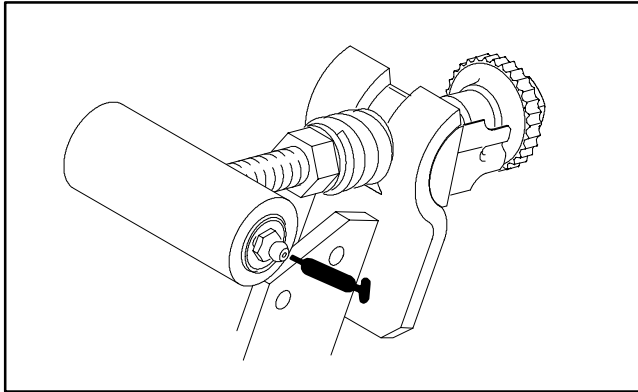
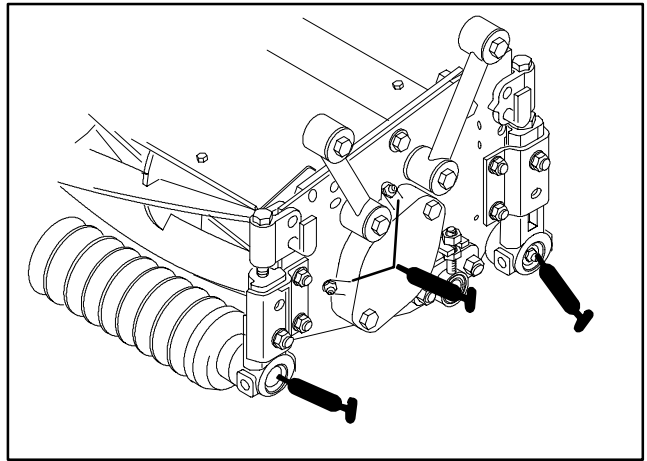

Figure 6
Figure 7
1. The grease fitting locations and quantities are: Bedknife adjuster (2), every 50 hours (Fig. 6); Reel bearings (2) and front and rear rollers (2 ea.) (Fig. 7).